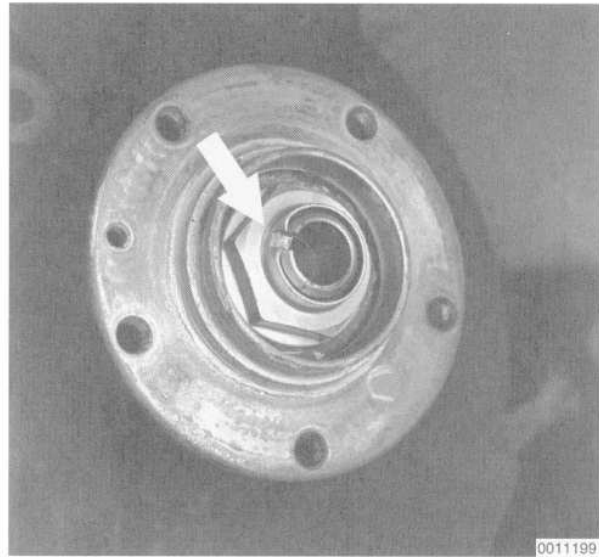

Fig. 10. Staked part of collar nut bent back (arrow).
3. Bend back the staked part of the wheel hub collar nut. See Fig. 10.
15. Tighten the collar nut and then stake the nut to the axle. See Fig. 10 given earlier.